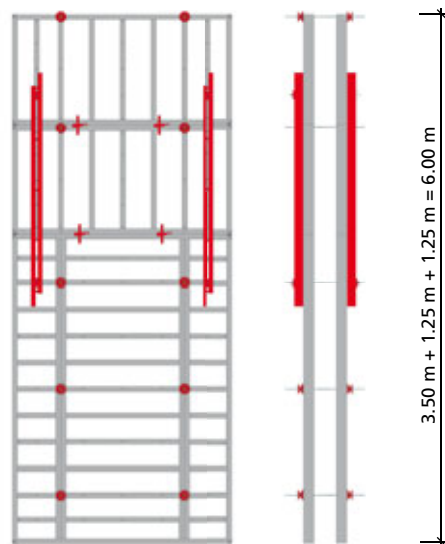

Fig. 34.1
■ When horizontally adding 2 panels with a width of 1.25 m for extension and the total formwork height does not exceed 6.00 m, the bottom row of ties does not tieing when using 2 alignment rails RS 250 (Fig. 34.1).